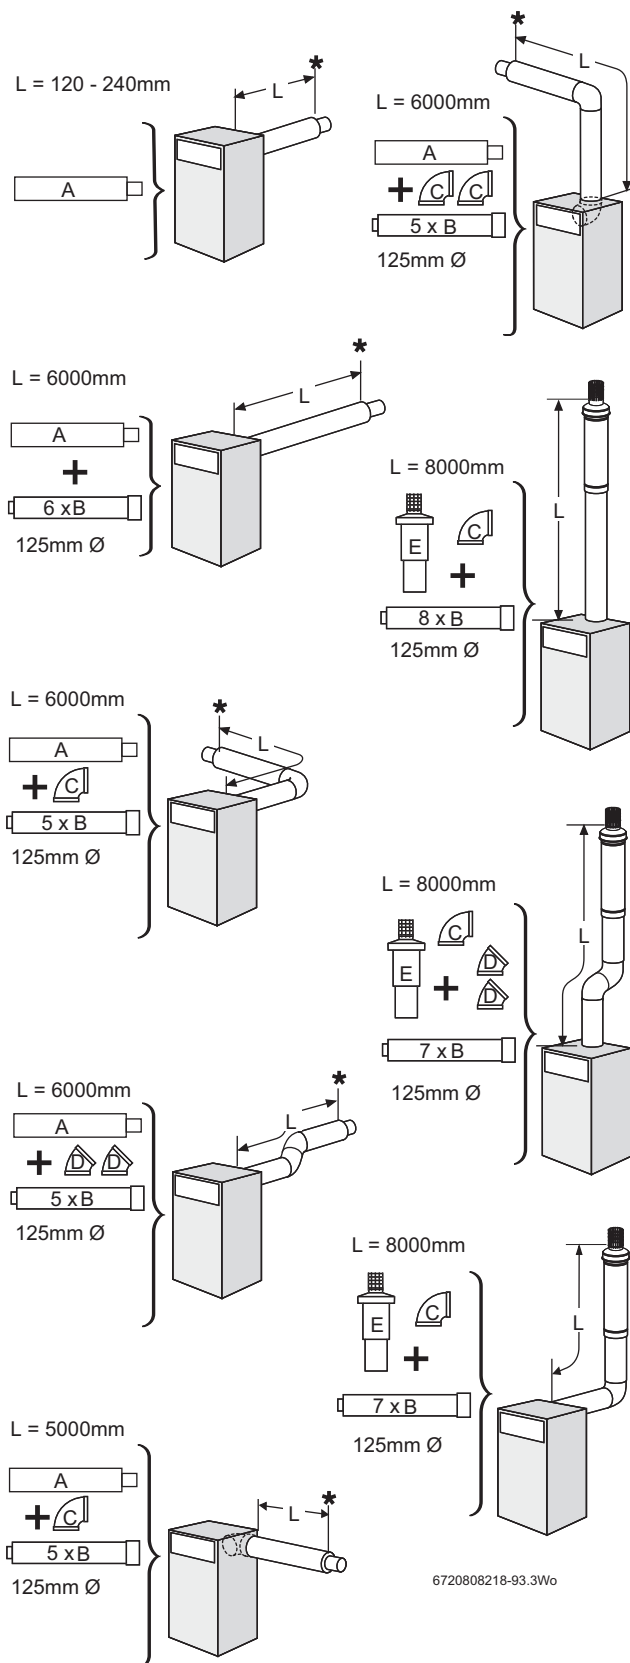

Fig. 28 Room sealed flue options
Figure 28 shows the components used and the maximum flue length (L) for each flue configuration.